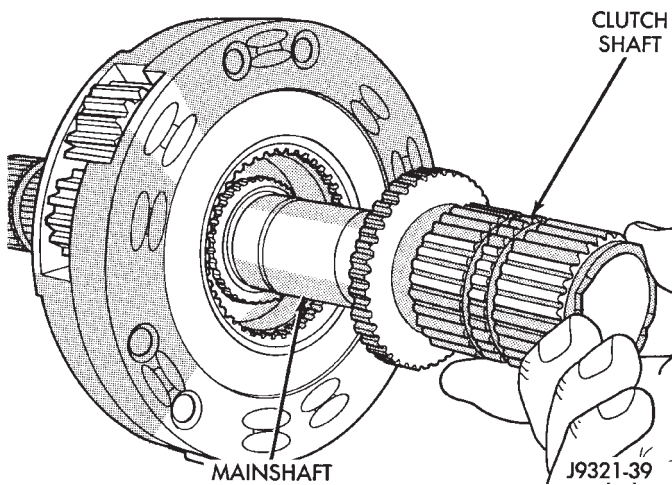

Fig. 77 Installing Clutch Shaft
(15) Install clutch shaft (Fig. 77).